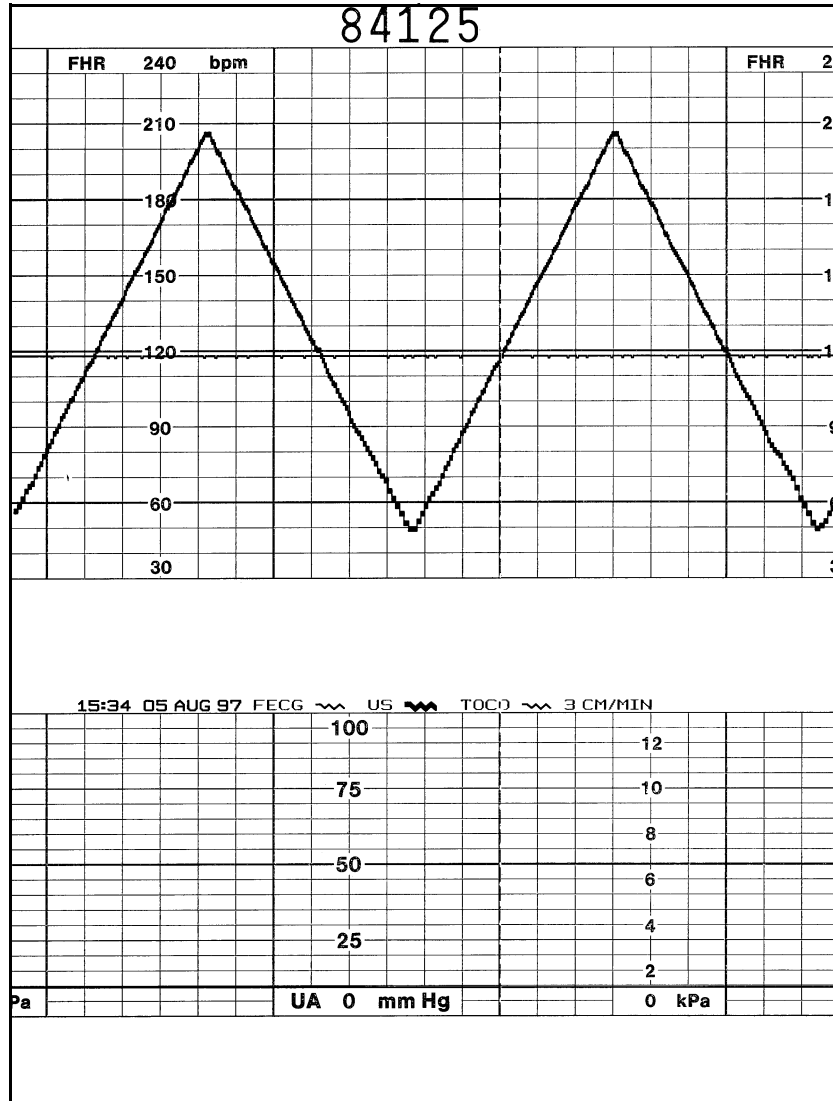

Figure 6-6. Dual Heart Rate, FECG and US
- ◆ The FHR1 trend is a continuous plain black line (—∩∩∩) on the 120 BPM mark on the top grid of the strip chart paper. (Refer to Figure 6-6.)
- ◆ The FHR2 trend is a bold black ramp trace (—∩∩∩) between 50 and 210 BPM on the top grid of the strip chart paper. (Refer to Figure 6-6.)